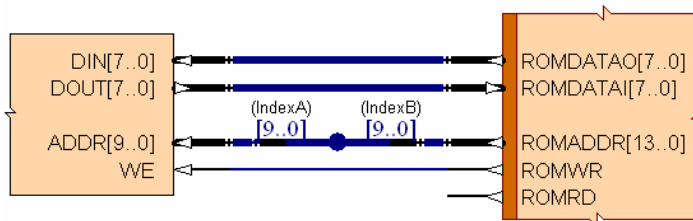

Figure 11. An example of using the JB bus joiner to achieve sub-set mapping
- If both bus ranges are descending, match by same bus index (one range must lie within the other for valid connections). In Figure 11 the matching is: